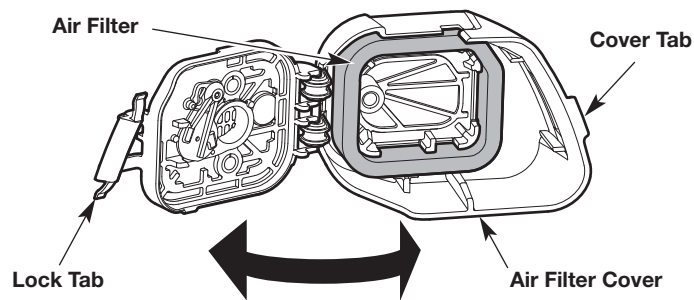

Fig. 12
1. Open the air filter cover: Hook your fingers behind the cover tab. To unlock the air filter cover, pull it to the left and away from the engine. This may require a firm pull. Swing the air filter cover to the right (Fig. 12).
2. Remove the air filter from inside the air filter cover (Fig. 12).
6. Reinstall the air filter inside the air filter cover (Fig. 12).
7. Close the air filter cover: swing the air filter cover to the left and press it closed until the lock tab snaps into place (Fig. 12).